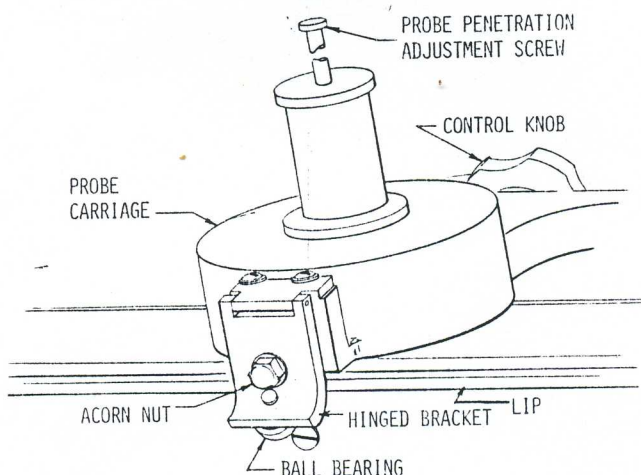

Figure 2. Model S870A Probe Carriage Detail
6. To avoid the possibility of damage in shipment, the waveguide and probe carriage of the Model S870A are packed separately. The parts referred to in the following assembly procedure are identified in figure 2.